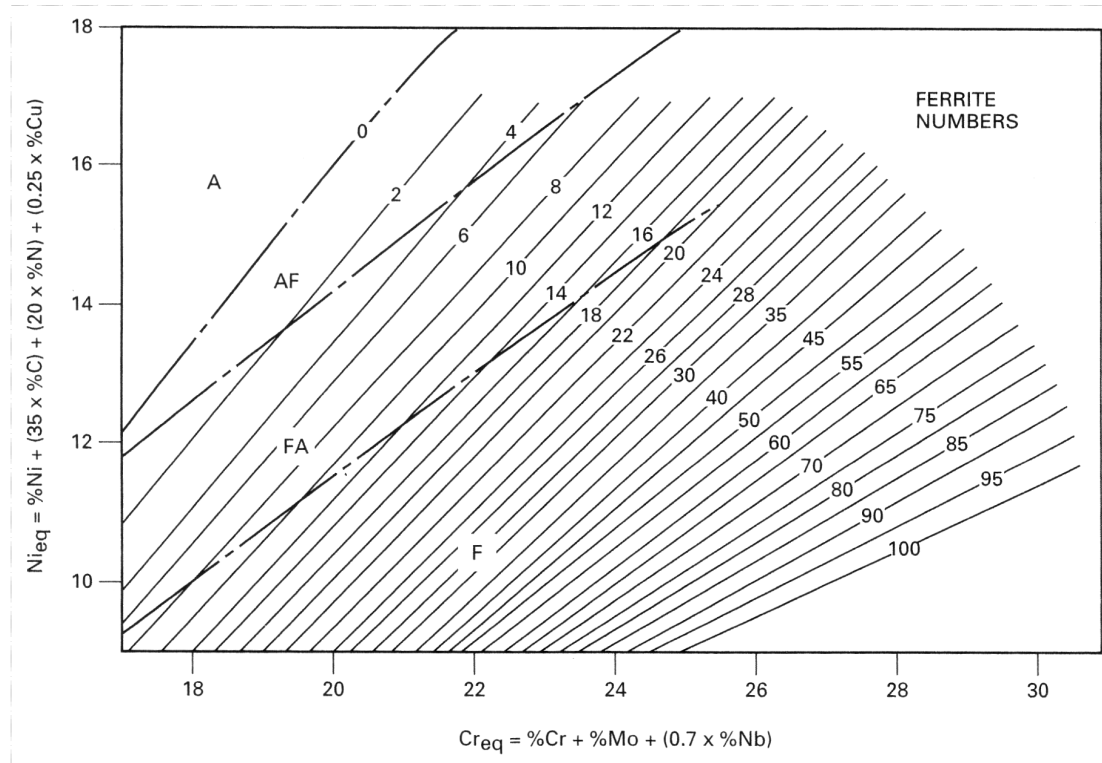

Figure 1- WRC-1992 Diagram to predict ferrite and austenite content in stainless steel weld metal.
Type 304 austenitic stainless steel is welded with 308L filler by GTAW. The “L” in 308L indicates that the filler contains extra-low carbon content, typically less than 0.03%. It is very important that prescribed filler be used to weld a particular grade of stainless steel, because there is only a narrow range of acceptable compositions that are not susceptible to solidification cracking. Type 308L is designed to be used with 304 stainless steel so that excellent weld quality is achieved in all welding positions. If filler metal are used which are not recommended by the manufacturer or the American Welding Society, solidification cracking may occur. Because solidification cracking is problem in GTAW of stainless steel, the WRC-1992 diagram was developed to choose the correct filler to ensure crack-free welds. Using the WRC-1992 in Figure 1, the composition of the weld metal admixture must fall in the region marked “FA” for maximum immunity to solidification cracking. When using a ferrite gage, the ferrite number (FN) should read from 3 to 12% for maximum immunity to solidification cracking.
To determine the amount ferrite in the weld metal admixture, simply plot $Cr_{Eq} = 19.5$ on the x-axis and $Ni_{Eq} = 12.1$ on the y-axis of Figure 1. The point of intersection occurs at Ferrite Number (FN) = 6 in the FA region. This means that welding will be crack-free because the ferrite content is between 3 and 12FN.
Type 309L stainless steel electrode contains more Cr and more Ni than the 308L electrode. Type 309L filler metal is designed to weld mild steel (or low alloys steel) to stainless steel. Thus, for applications where steel plate is being welded to stainless steel plate, the use of 309L is needed to provide weld metal that is resistant to solidification cracking. The weld metal is designed to contain from 3 to 12FN (ferrite number, from Figure 1) to prevent solidification cracking.